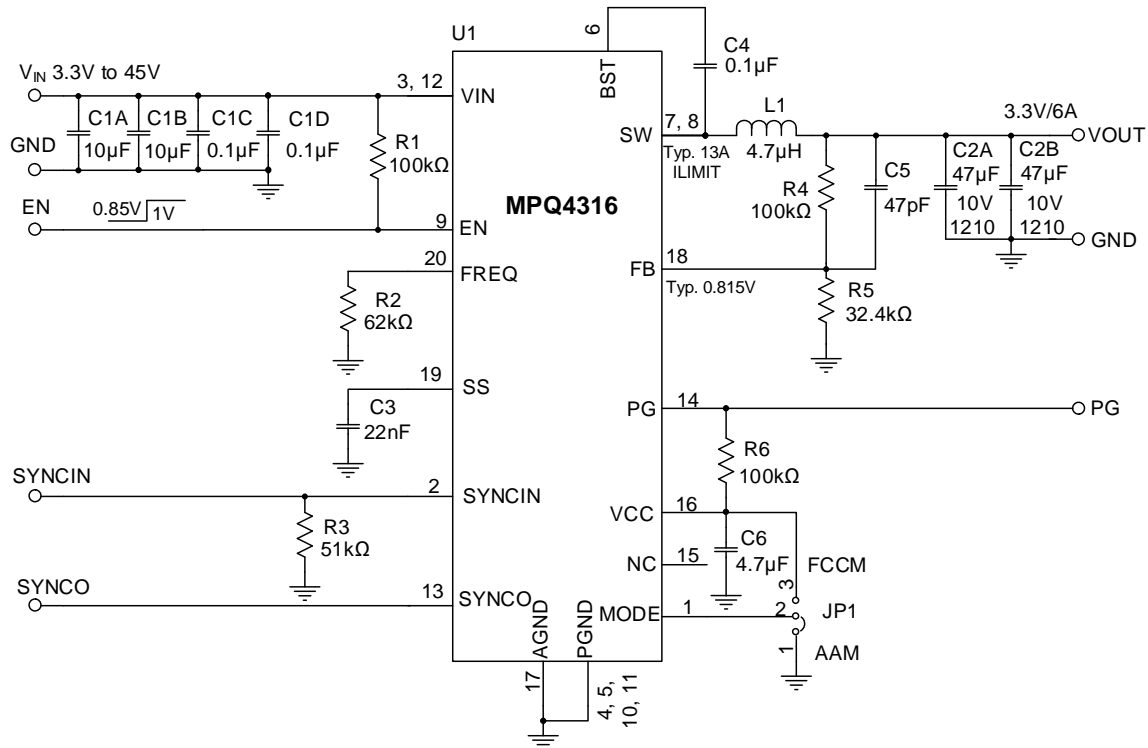

Figure 13: $V_{OUT} = 3.3V$, $f_{sw} = 470kHz$
9) The recommended PCB layout is based on Figure 13.